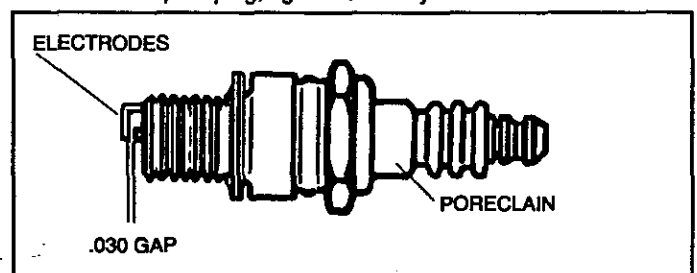

Figure 4
### ④ SPARK PLUG (see Figure 4):